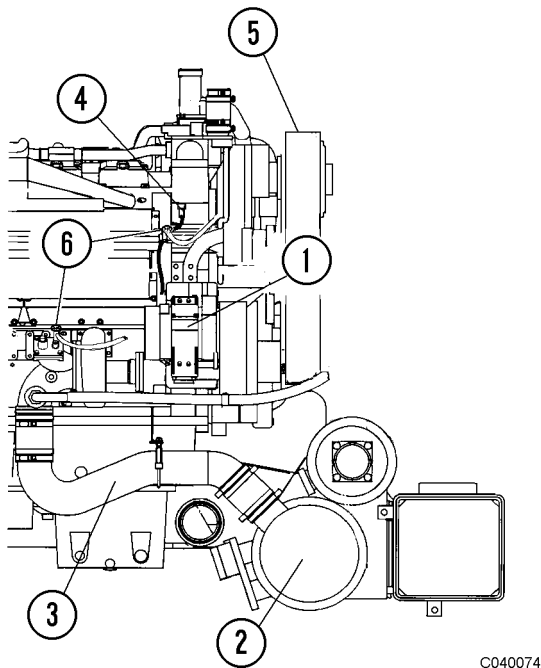
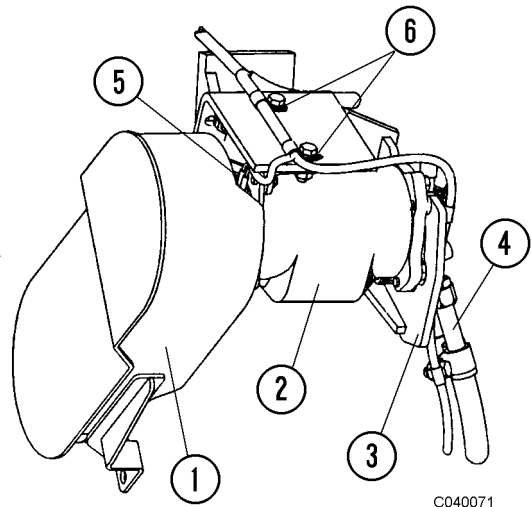

FIGURE 4-2. COOLER ASSEMBLY PIPING
FIGURE 4-3. AIR CONDITIONER COMPRESSOR
10. Remove water pump inlet pipe (3, Figure 4-2) between the engine and cooler assembly (2).
11. Close heater shut-off valves (6) and disconnect the hoses.
13. Disconnect the suction and discharge hoses from air conditioning compressor (2, Figure 4-3).
14. Disconnect compressor clutch connector (5). Remove harness clamps (6). Disconnect the tri-nary switch from the receiver/drier.